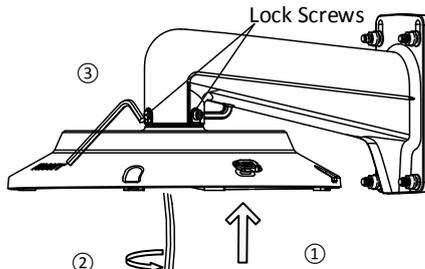

Figure 1-13 Installing Head Cover of PanoVu Camera
- 1) Loosen the two lock screws and make sure that the screws do not appear in the inner side of bracket, as shown in Figure 1-13.